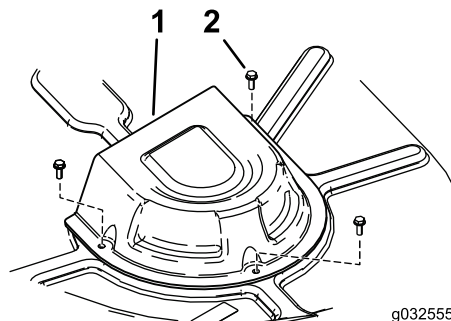

Figure 45
4. For machines with a 107 cm (42-inch) deck, remove the pulley covers (Figure 45).